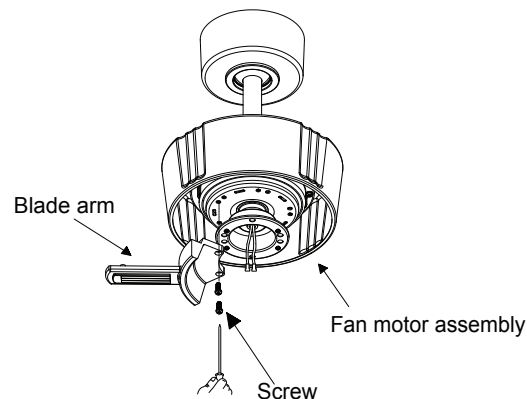

Fig. 16
Step 1. Fasten the blade arm to the fan motor assembly by tightening the blade arm screw onto the fan motor assembly. (Fig. 16)